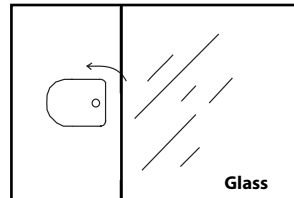

Fig. 1.
2. Turn the brackets so that the glass can be removed and cleaned at the sink (Fig. 1.)
- (d) The air gap at the rear allows the warmed air to pass out of the cabinet. If cabinets extend up to the ceiling, the warm air must be exhausted through to the front. Fig. 1.